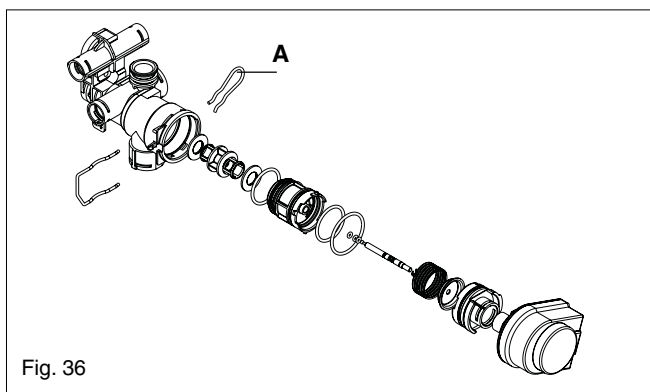

Fig. 36
6.21 DIVERTOR VALVE ASSEMBLY (fig. 36)